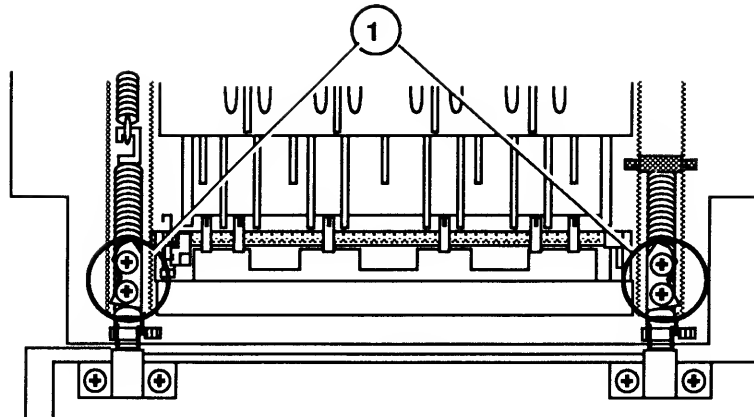

FIGURE 69
4. Remove the four Phillips screws (Figure 69, #1) that secure the hinge arms to the top cover.